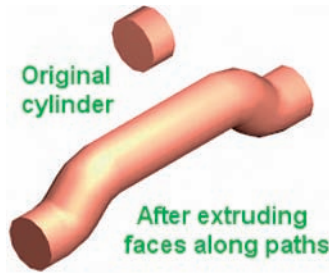

Fig. 19.3 First example – **Extrude faces** tool
First example – Extrude faces tool (Fig. 19.3)
8. Render the resulting edited 3D model (Fig. 19.3).